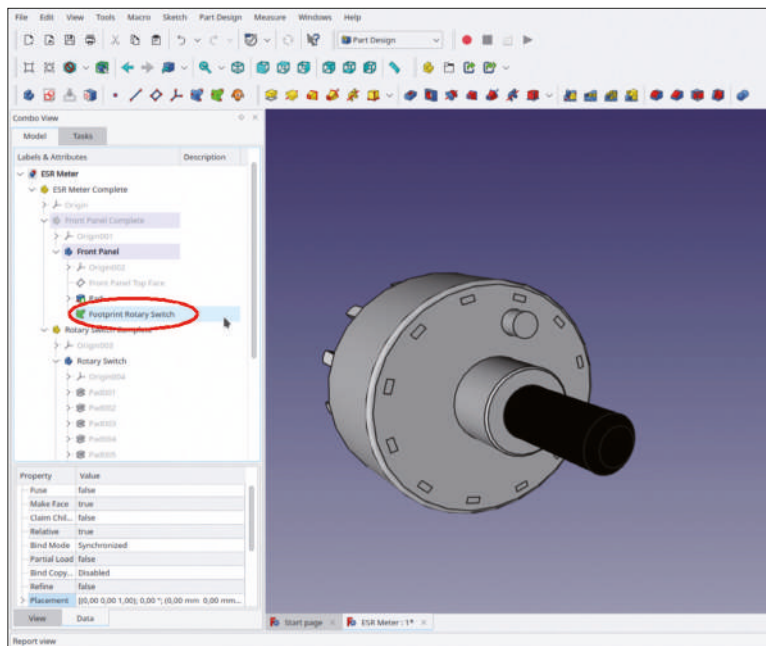

Figure 7-9
4. Scroll up the tree view and locate the new, green SubShapeBinder in the body 'Front Panel'. Rename it to 'Footprint Rotary Switch' (Figure 7-9).